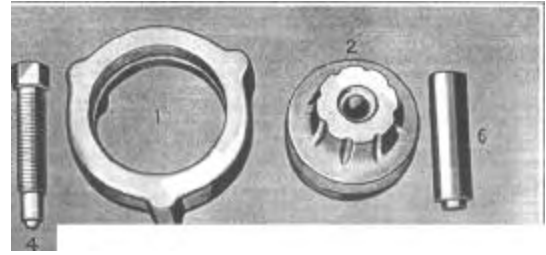

Figure 518—3-788 Water Pump Repair Set
The water pump reconditioning tool set No. J-788, Figure 518, is used for all service operations.
21. Assemble the body (No. 1) of the water pump repair set No. J-788, Figure 518, to the water pump with the three attaching studs.